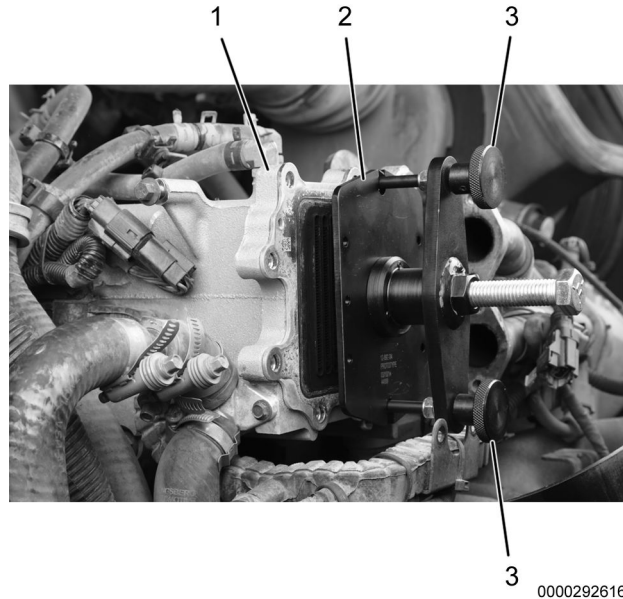

Figure 2. LT EGR Core Puller Thumbscrews – LT EGR Cooler Core Removal.
1. Apply anti-seize compound to threads of two thumbscrews (Figure 2, Item 3).
2. Install LT EGR core puller (Figure 2, Item 2) onto LT EGR cooler housing (Figure 2, Item 1) with two thumbscrews (Figure 2, Item 3) hand tight.